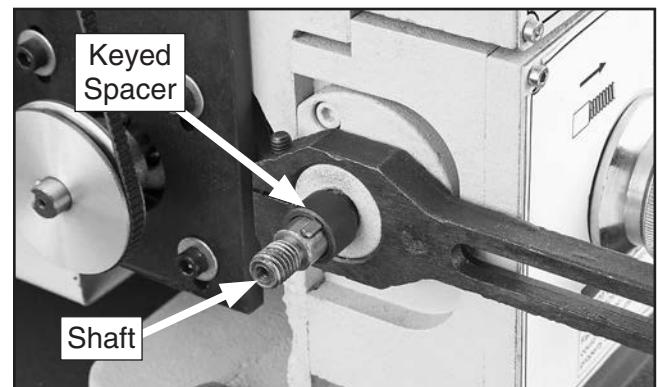

Figure 77. Location of keyed spacer.
9. Remove keyed spacer from lower gear shaft (see **Figure 77**).